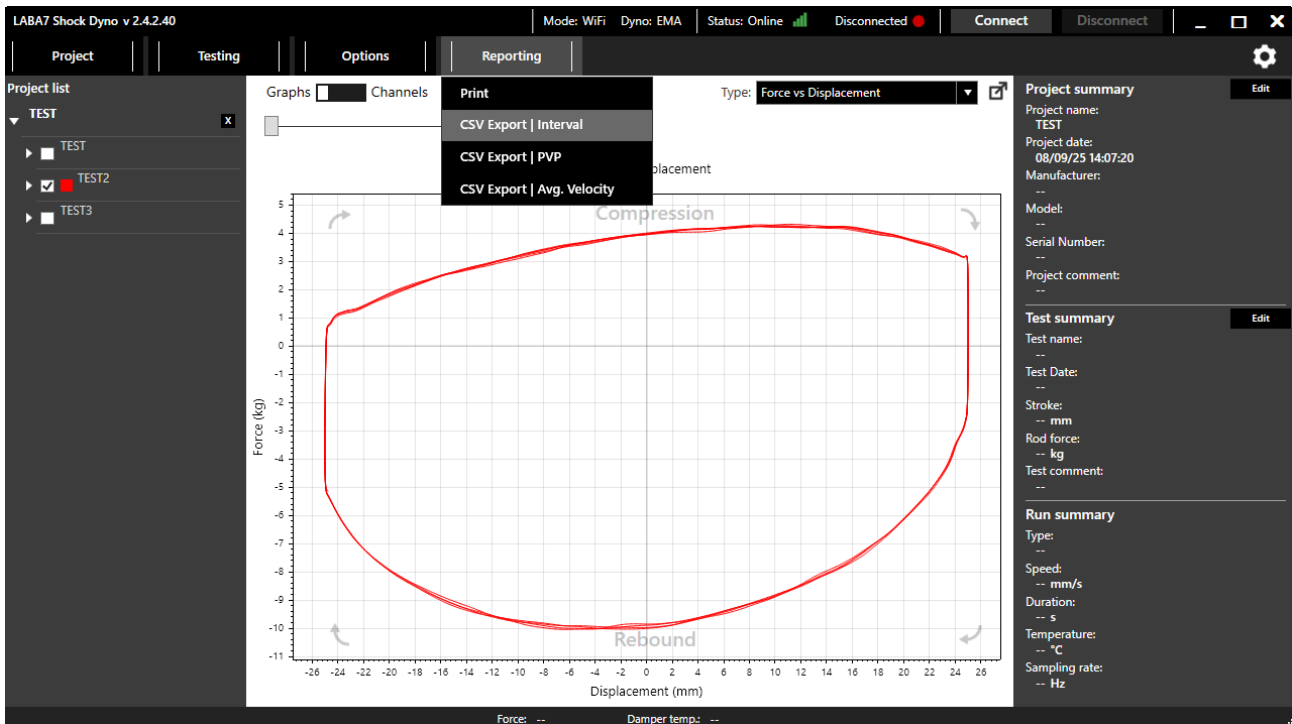

Figure 62
2. Press reporting (Figure 62).
2. Press “reporting” (Figure 62).